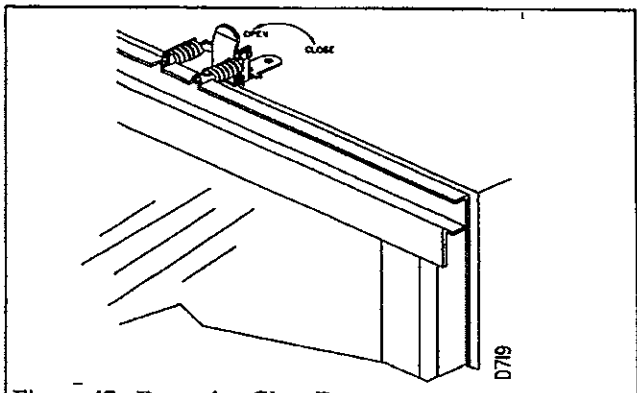

Figure 47 - Removing Glass Door
3. To open the glass door, undo the latches located on the top and bottom side of the firebox, (see Figure 47). Then carefully swing the door to the left. The glass door is securely mounted to the firebox by means of six screws.